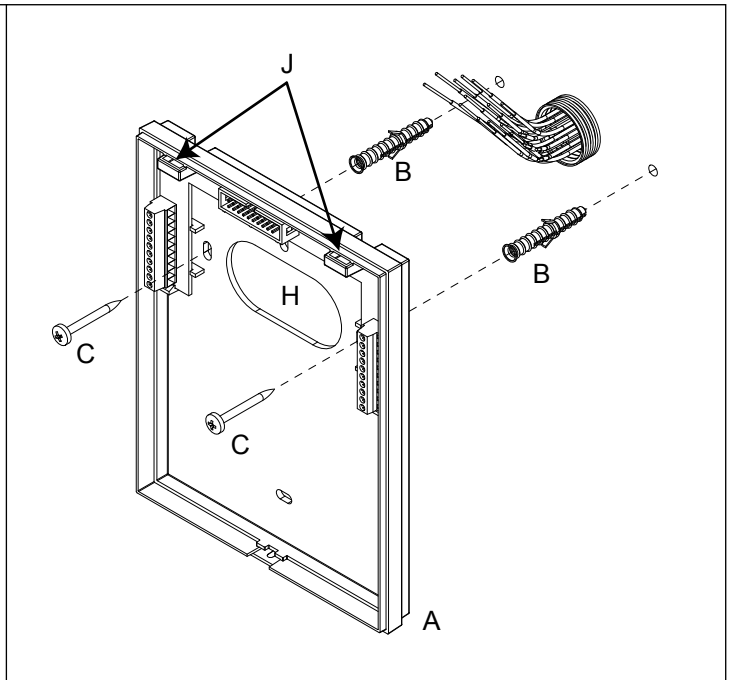

Fig. 2
2. Leaving approximately 135cm from the finished floor, fit the bottom "A" against the wall and mark the fixing holes considering that the cables must be fed through the opening "H" (**Fig. 2**).
3. Make the holes, and fix bottom "A" on the wall using the two wall plugs "B" and the two screws "C" as shown in **Fig. 2**.
6. Hook cover "D" to bottom "A" by using the two clips "J" (**Fig. 2**) as shown in **Fig. 4** then push down cover "D" towards bottom "A". Then proceed with system testing.